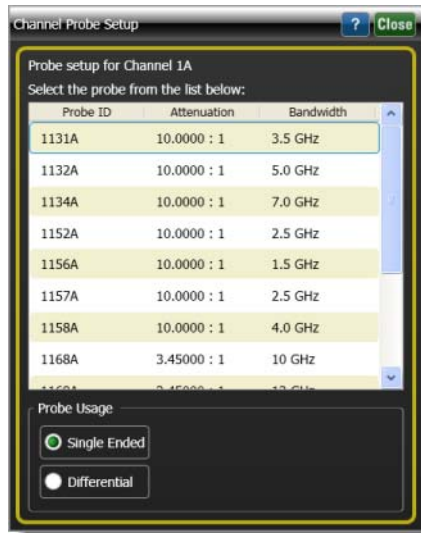

Figure 1 Probe Channel Dialog Box
- 4 The 86100D's Probe Channel dialog box automatically opens as shown in Figure 1 on page 11.